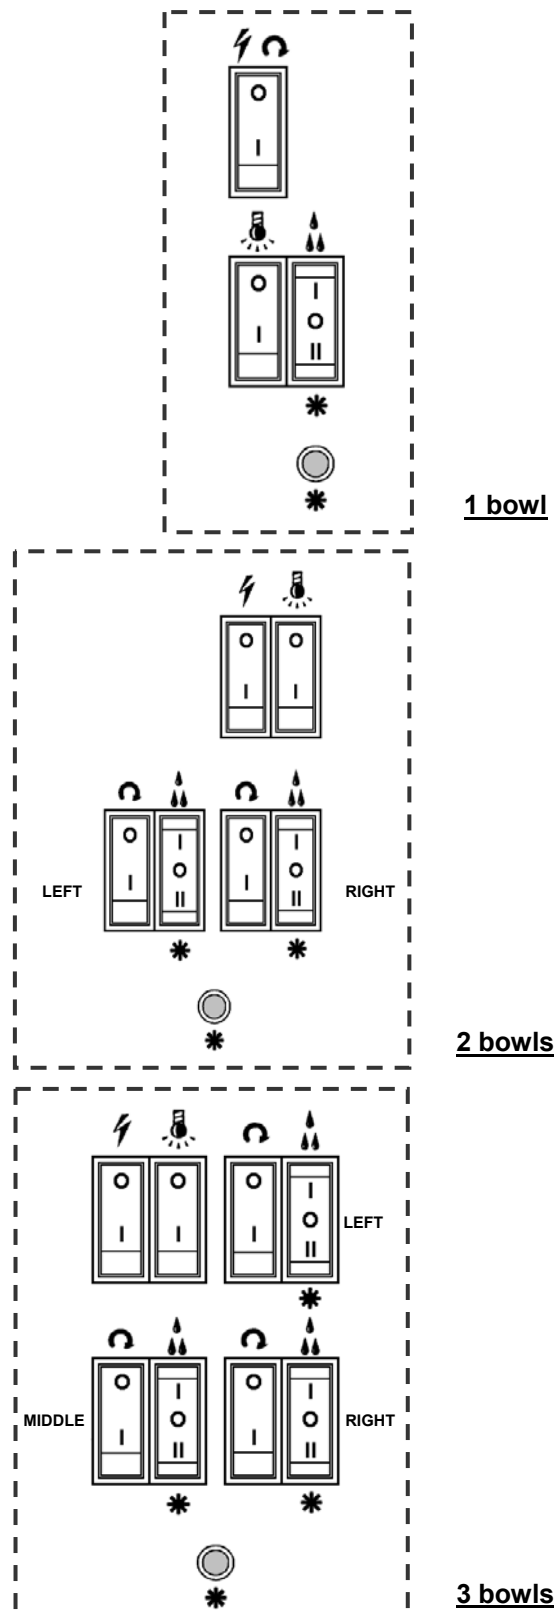

Figure 5
4. To operate, press main power switch and agitator switch to **ON** position (Figure 5). **NOTE: The agitator switch must be to ON position before setting to liquid or slush mode.**